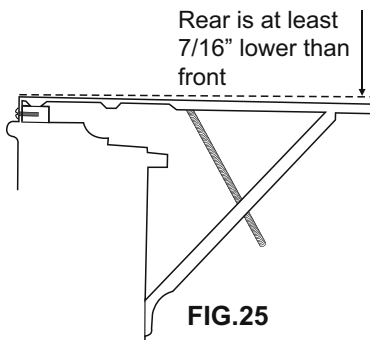

FIG.25
- A projection below the base of the air conditioner will require the rear of the platform to be  $7/16$ " lower than the front to create the  $3/16$ " slant from front to rear (FIG.25).